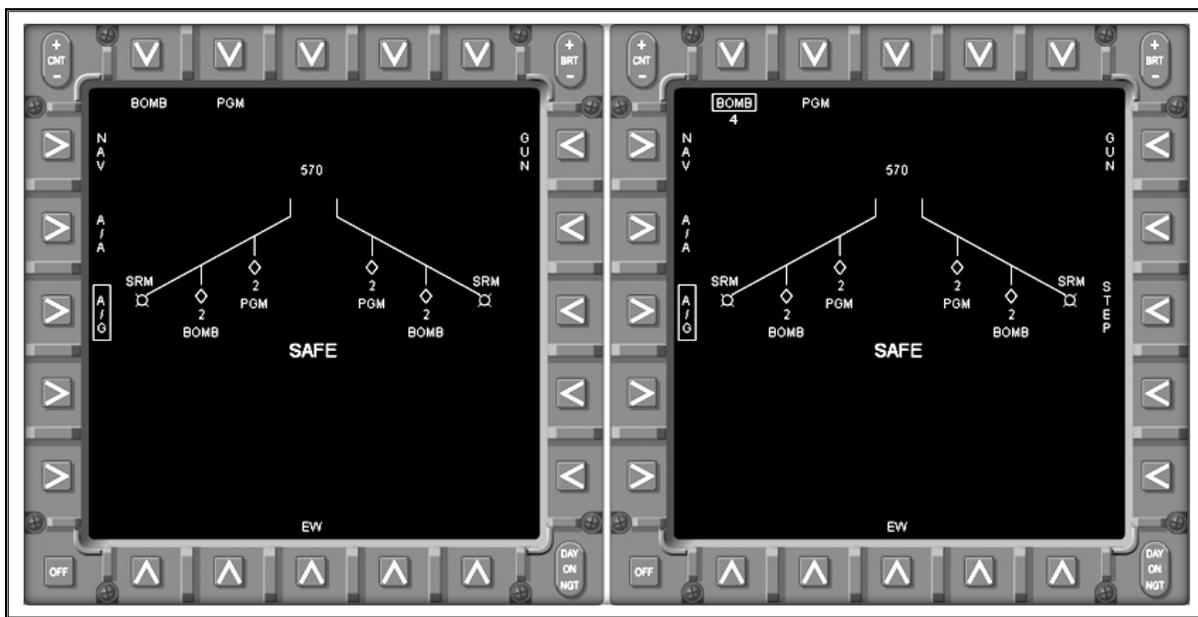

Figure 2-9 OFT SMS
- a. Stores Management System (SMS) Display – A planform display that includes selection of master modes and provides for the selection of training mode weapons (Figure 2-9). Available weapons include:
- iii. General Purpose (GP) bombs